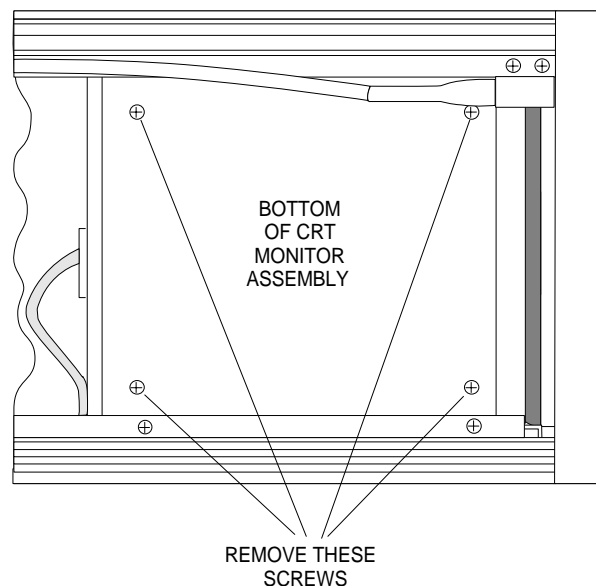

Figure 5-4. CRT Monitor Assembly Removal (Bottom)
- Step 2** Remove the four screws that fasten the CRT monitor assembly to its mounting bracket (Figure 5-4).